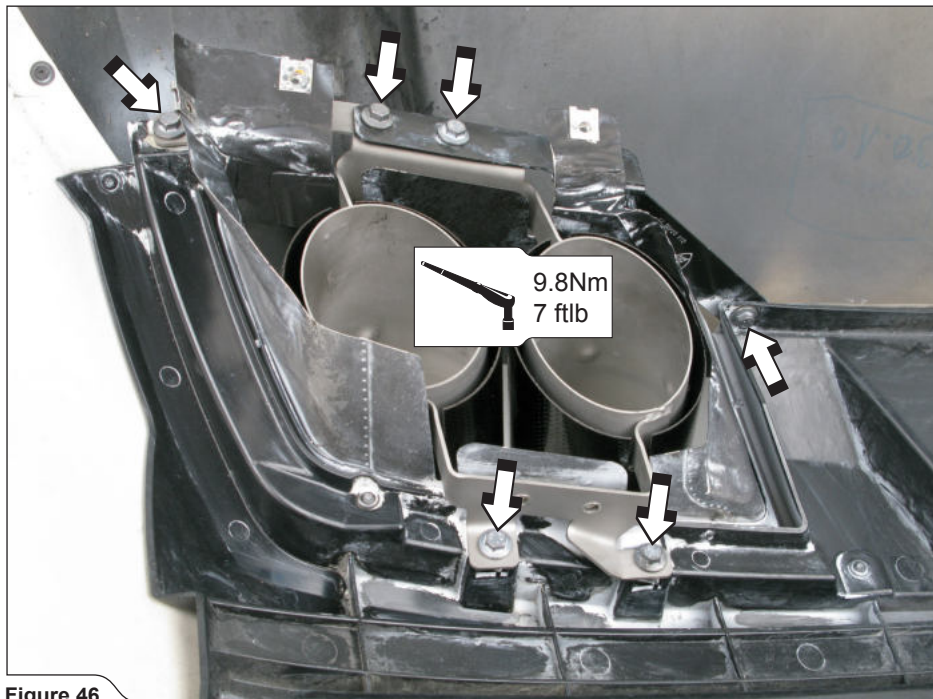

Figure 46
9. Attach the Akrapovič Tail Pipes onto the bumper trim panel, using stock bolts. (Figure 46).